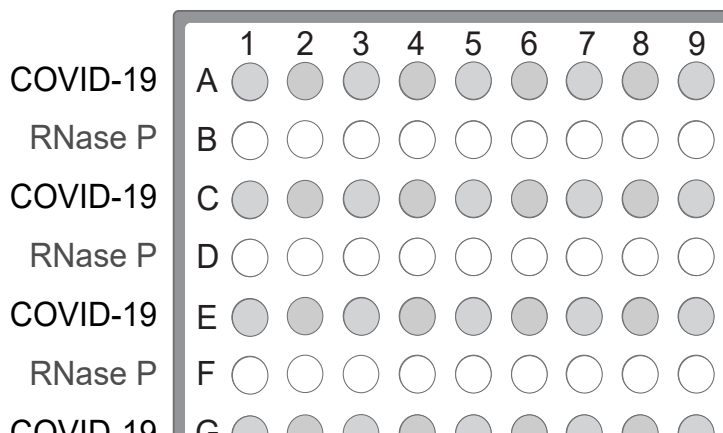

Figure 7 Assays in alternating plate rows
- a. Starting with row A, pipet 15.0 μ L per well of the COVID-19 Reaction Mix into every other row of a MicroAmp™ Optical 384-Well Reaction Plate with Barcode. See Figure 7 on page 64.